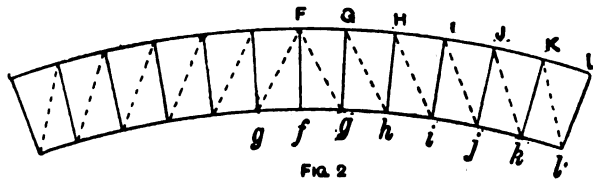

FIG. 2
**Manufacture of Lucifer Matches.**—The tipping composition for "strike-anywhere" matches consists of red phosphorus with other ingredients as follow. (1) Phosphorus 1 part, chlorate of potash 8 parts, glue 4 parts, whiting 2 parts, powdered glass 8 parts, water 22 parts. (2) Phosphorus 2 parts, chlorate of potash 5 parts, glue 3 parts, red lead  $\frac{1}{4}$  parts, water 12 parts. Safety matches have no phosphorus on the tip, but it is contained in the rubber. For tipping safety matches, use (1) Chlorate of potash 1 part, glue 2 parts, sulphide of antimony 1 part, water 12 parts. (2) Chlorate of potash 4 parts, bichromate of potash  $\frac{1}{4}$  parts, red lead 4 parts, sulphide of antimony 3 parts, with sufficient glue and water to form a paste. The rubber on the box is treated with phosphorus 2 parts, powdered glass 1 part, mixed with sufficient glue solution to form a thin fluid while warm. Red phosphorus varies in colour from red to brown; it is formed by heating the ordinary phosphorus to 240° C. or 250° C., either in a closed space or in an inert gas, such as nitrogen or carbonic acid. On heating the red modification to a temperature of 260° C. it changes back to the ordinary phosphorus. Red phosphorus, when freed from the ordinary phosphorus, is non-poisonous, passing through the body unaltered; but red phosphorus is rarely, if ever, free from ordinary phosphorus, and hence cannot be said to be non-injurious. Red phosphorus does not take fire by simple friction like the yellow variety, but must be raised to a temperature of 240° C.
**Constructing a Bamboo Bedstead.**—Fig. 1 shows the foot of a bamboo bedstead, 3 ft. wide and 3 ft. 10 in. high; Figs. 2 and 3 are alternative designs for the head. The framework of each of these sections must be made from canes 1½ in. to 2 in. in diameter, and great care